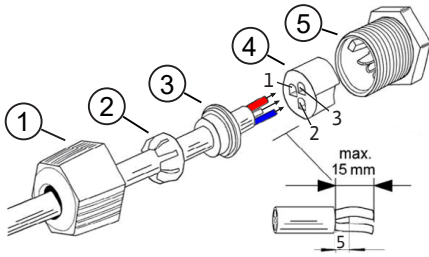

Fig. 19: Quickon connector
2. Remove the signal cable line sheathing (approx. 15 mm). The wire ends must be flush with the splice ring (Item 4) or may protrude max. 2 mm, see Fig. 19.